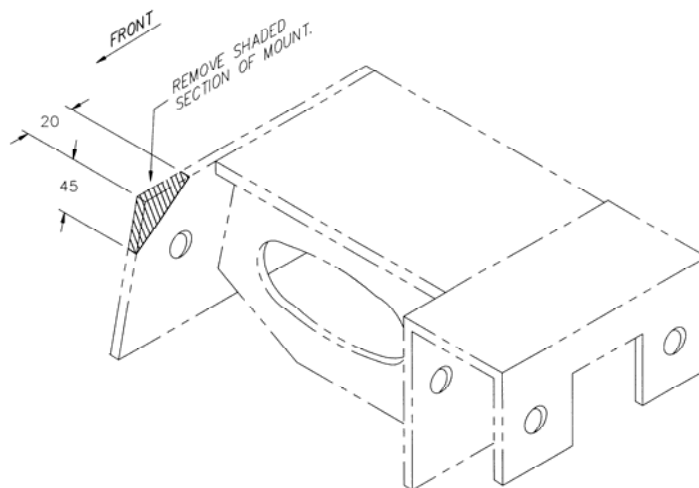

Figure 2 LH Engine Mount To Chassis
- f. Jack up the engine to allow removal of the LH front engine mount. Use an angle grinder to remove the corner of the engine mount as shown in Figure 2. This will eliminate a potential foul condition.
- f. Refit the 140 mm long bolt (Figure 2).